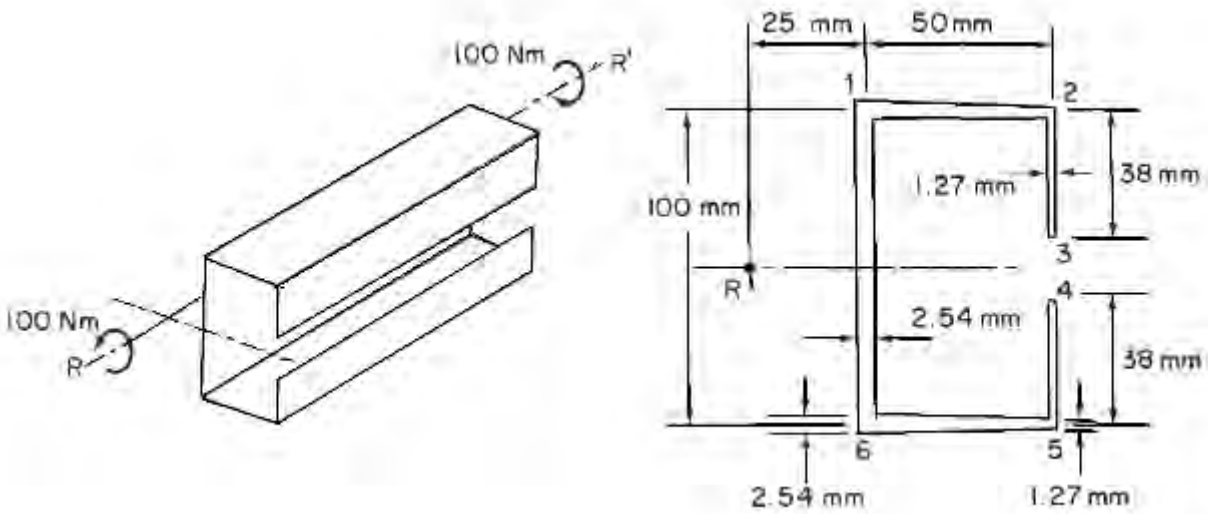

Figure 5:
6. Figure 5 shows the cross-section of a thin-walled beam in the form of a channel with lipped flanges. The lips are of constant thickness 1.27mm while the flanges increase linearly in thickness from 1.27mm where they meet the lips to 2.54mm at their junctions with the web. The web has a constant thickness of 2.54 mm. The shear modulus G is $26\,700\text{N/mm}^2$ throughout. The beam has an enforced axis of twist RR_1 and is supported in such a way that warping occurs freely but is zero at the mid-point of the web. If the beam carries a torque of 100Nm, calculate the maximum shear stress according to the St. Venant theory of torsion for thin-walled sections. Ignore any effects of stress concentration at the corners. Find also the distribution of warping along the middle line of the section, illustrating your results by means of a sketch. [16]